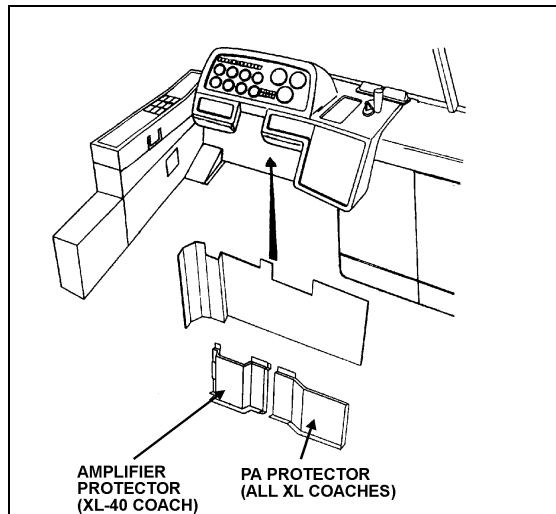

FIGURE 1
2. Remove the screws securing amplifier protection panel (Fig. 1). Remove the panel.